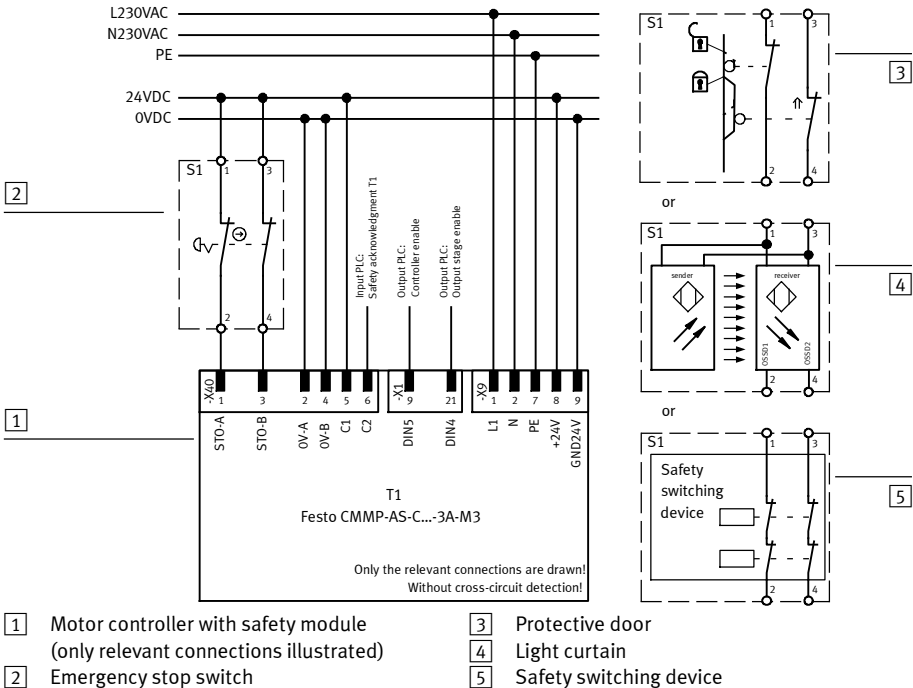

Fig. 3.2 Connection of the safety module CAMC-G-S1, example of single-phase motor controller CMMP-AS-C....-3A-M3
To ensure the STO “Safe Torque Off” functions correctly, the control ports STO-A and STO-B are to be connected in two channels with parallel wiring → Section 3.3.1, Fig. 3.2.
If no micro switch module is available or for the initial start-up of the motor controller without safety equipment, the motor controller CMMP-AS-...-M3 with the safety module CAMC-G-S1 can be equipped with an emergency stop switch (2) with minimum wiring as per Fig. 3.2.